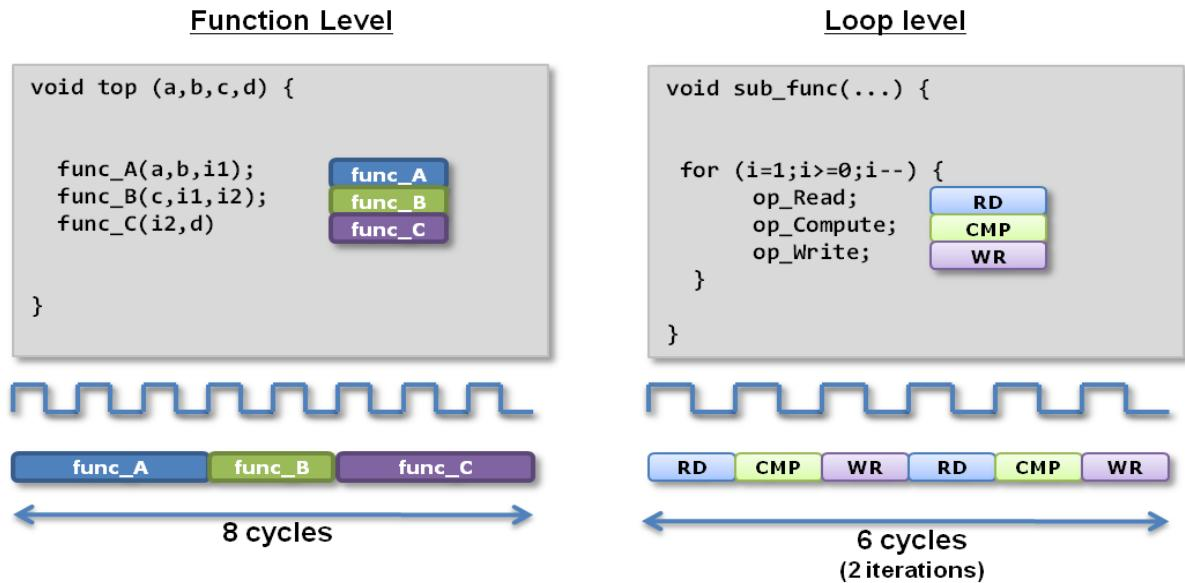
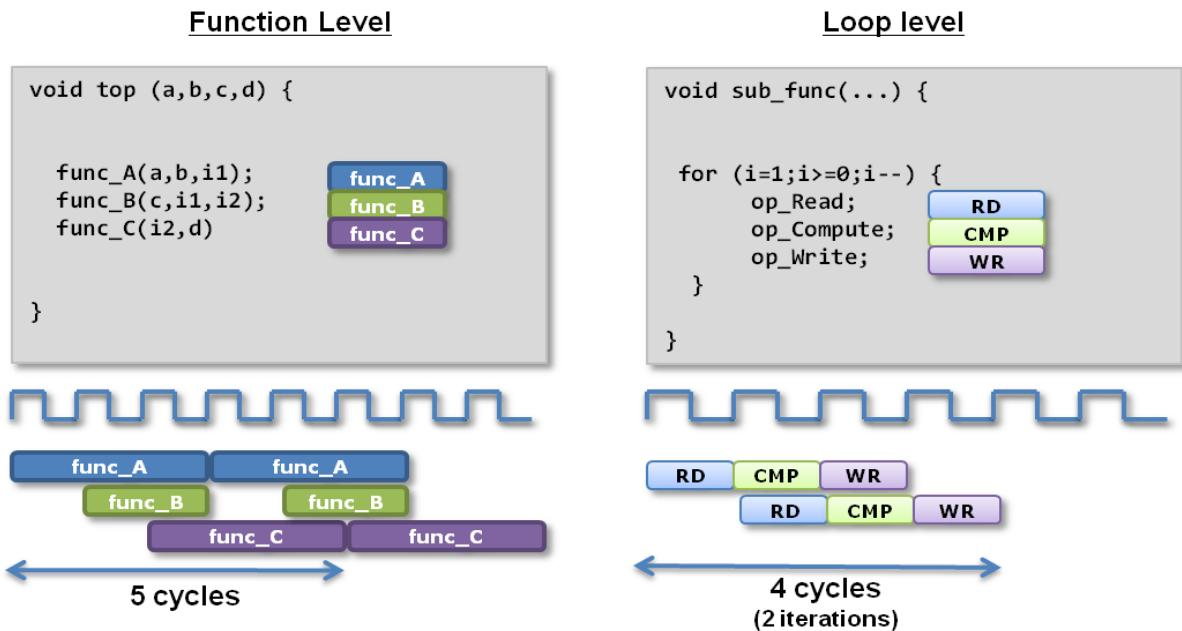

Figure 2-3: Functions & Loops Without Pipelining
Figure 2-4: Functions & Loops With Pipelining
A C program operates in a sequential manner. Given the function "top" shown on the left-hand side of Figure 2-3, every sub-function from "func\_A" to "func\_C" must complete its operation before "func\_A" can once again execute.
As function "sub\_func" on the right-hand side of Figure 2-3 shows, it is the same at the operator level: the first operation cannot re-execute until the last is complete.
Figure 2-4 shows the result when High-Level Synthesis is used to pipeline the sub-functions and/or operations in a loop.
- Compared with the previous implementation in Figure 2-3, the 8 clock cycles it took to execute the function is now only 5 cycles and "func\_A" starts a new operation every 3 clock cycles instead of every 8.
- Figure 2-4 shows how loop pipelining can also positively performance compared with Figure 2-3: the loop completes in only 4 clock cycles and processes an new input (RD operation) every clock cycle instead of waiting for 3 clock cycles.